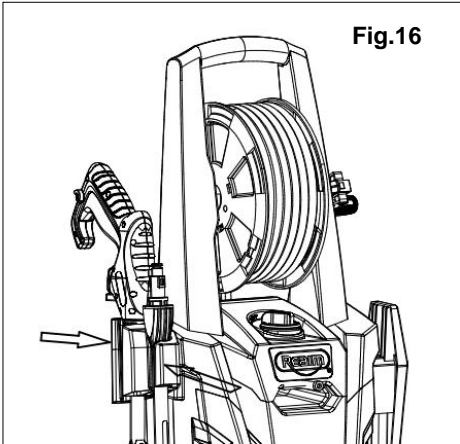

Fig.16
1. Storage the trigger gun and spray lance on the holders(Fig.16).